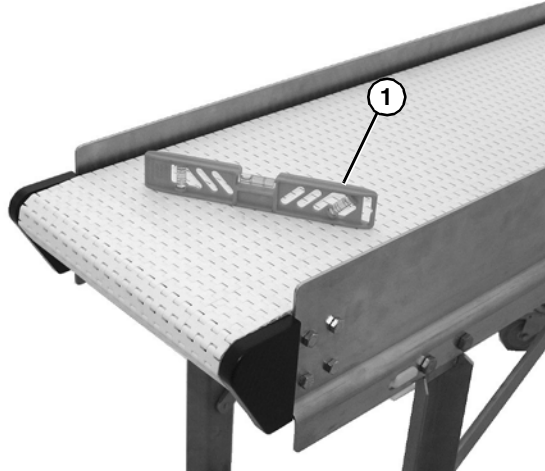

Figure 4
Conveyor **MUST** be mounted straight, flat and level within confines of conveyor. Use a level (Figure 4, item 1) during setup.